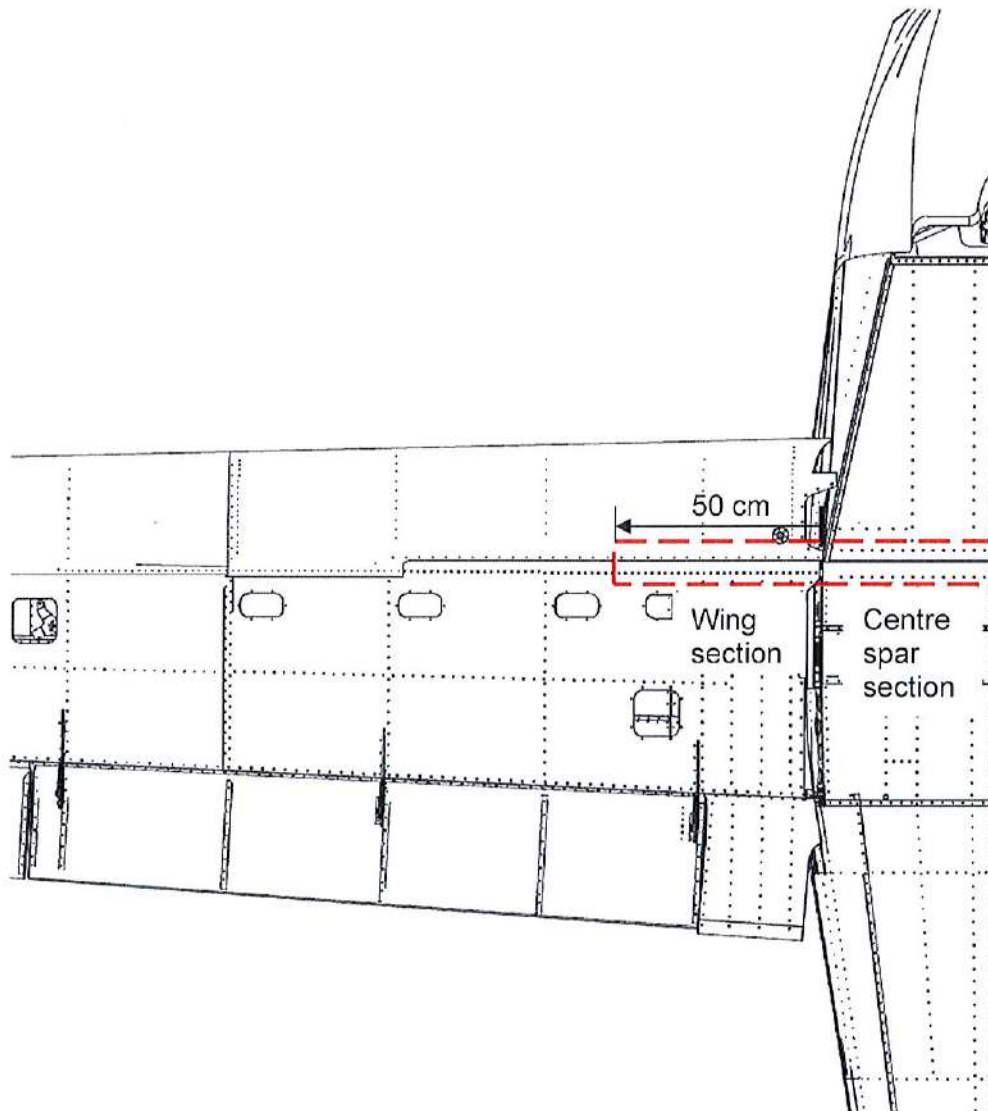
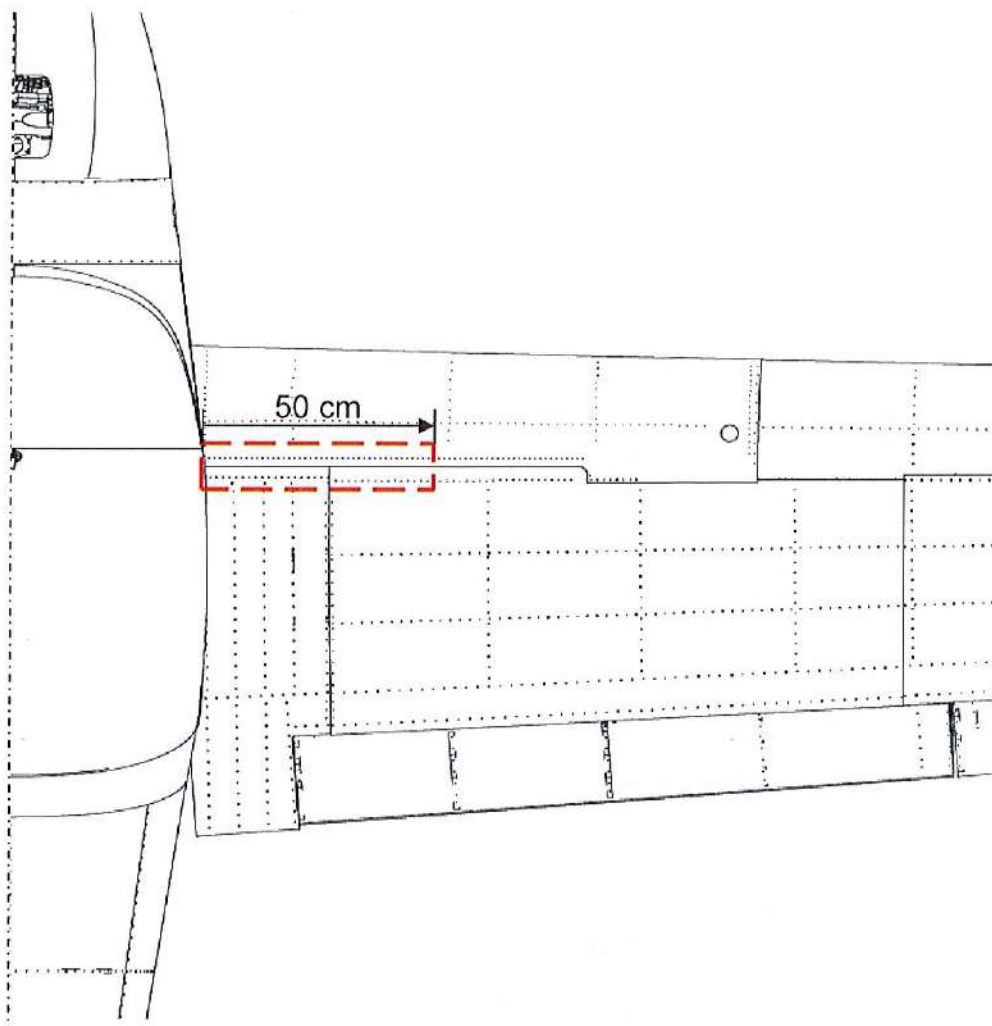
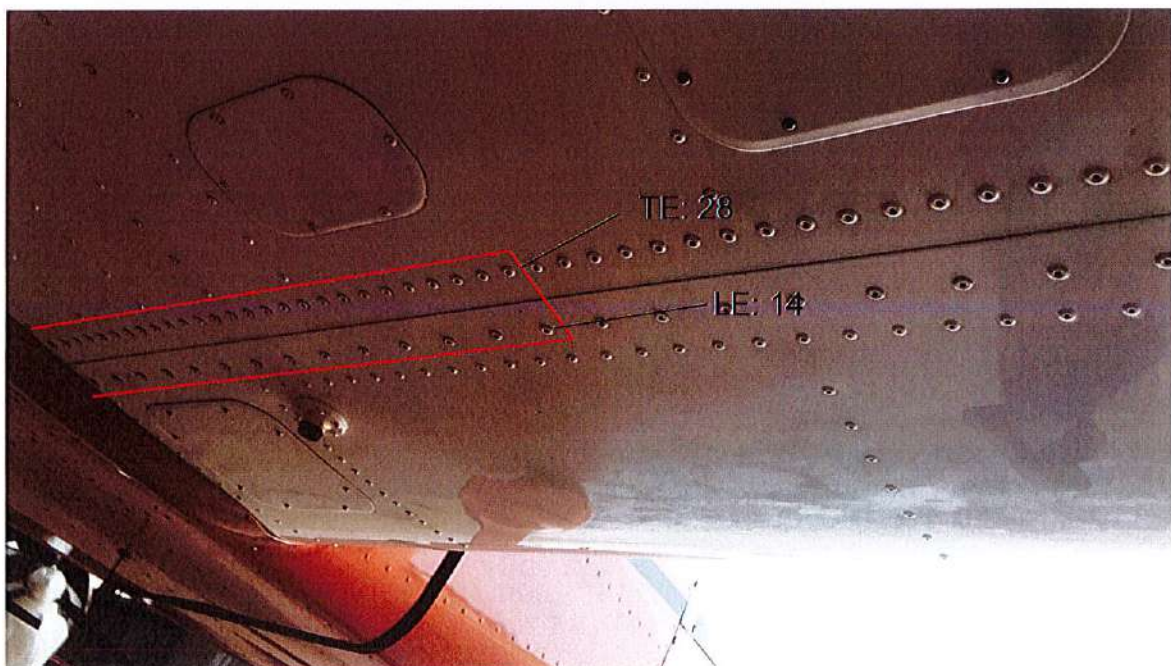

Figure 2 – Region of rivet replacement on the underside of starboard (right) wing
Figure 3 – Region of rivet replacement on the upper skin of starboard (right) wing
Figure 5 - Number of rivets to replace on Sling 4 wings
1. On the top and underside surfaces of both wings (of Sling 2 and Sling 4 aircraft only), the region where rivets should be replaced is along the wing main spar, a spanwise distance of approximately 50cm measured from the wing root (see Figure 4 and Figure 5).
2. On the fuselage (of Sling TSi, Sling 2 and Sling 4 aircraft), this region is along the two rows of rivets that attach the underside centre fuselage skin to the centre spar (see Figure 2).
3. Figure 2 shows one half of the affected region on the underside of the starboard wing and fuselage and Figure 3 shows half the affected region on the upper starboard wing. The quantity of rivets recommended should cover these regions sufficiently.
6. Using the powered drill with the 4 mm drill bit, drill the heads off rivets in the affected regions indicated in Figure 2 and 3 (specifically Figure 4 for Sling 2 and Figure 5 for Sling 4 wings). If rivets are filled, indent the centre of the rivet head with a centre punch and hammer before drilling.
The Figure 2 and 3 indicate the regions where rivets should be replaced on the aircraft. The rivets for the Sling TSi are replaced only on the centre spar carry-through under the fuselage.
3. Figure 2 and 3 demonstrate the general region where rivets should be replaced and hence should not be used as a guide to the number of rivets to be replaced.